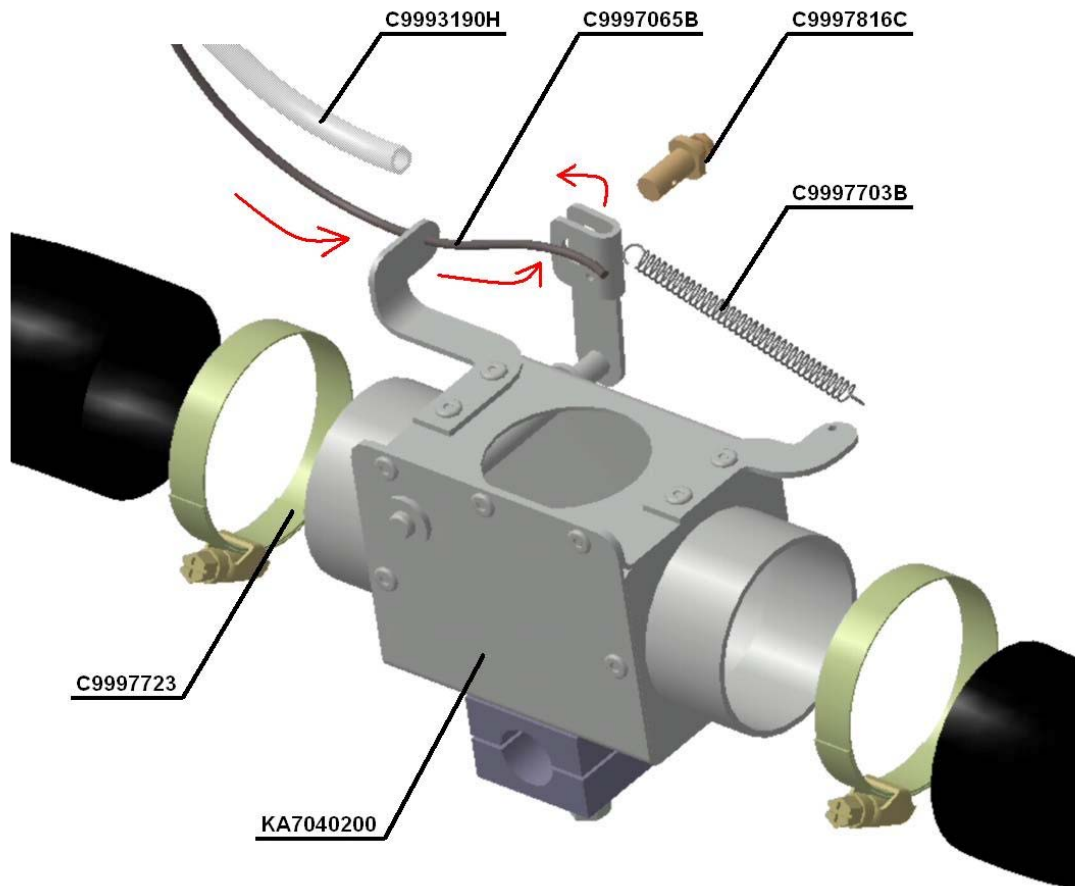

Fig. 4
- a. Check if there is the spring C9997703B Spring 0,5x5,0x25,0 at the Cabin heater choke KA7040200. If the spring is missing or damaged, set a new one. Fig. 4.
- b. Check if the cable C9997065B Steel rope 7x7 1 mm is frayed and if there is the stop C9997816C Cable stop 1806-Z ni at the cable attachment to the Cabin heater choke KA7040200. Fig. 4.
- c. If the stop C9997816C (Cable stop 1806-Z ni) is missing, connect the cable C9997065B (Steel rope 7x7 1 mm) to the Cabin heater choke as shown at the Fig. 4 and fix it by the stop C9997816C (Cable stop 1806-Z ni) using a screwdriver.
- Attach the cable C9997065B (Steel rope 7x7 1 mm) to the heating Cabin heater choke KA7040200 as shown by arrows at Fig. 4, secure the cable by C9997816C Cable stop 1806-Z ni.
4. Check the Cabin heater choke KA7040200 for operating according to the item 2. If positive, continue from item 7.